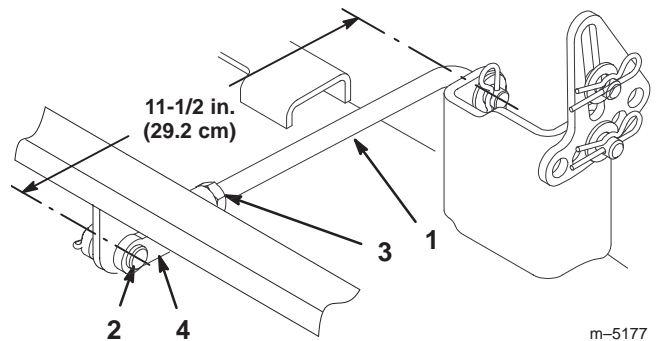

Figure 40
4. Measure the length of the rear trunion rod (Fig. 40). If the rod length is not 11-1/2 in. (29.2 cm), remove the clevis pin and cotter pin from the end of the rod (Fig. 40), loosen the jam nut, and turn the yoke until the 11-1/2 in. (29.3 cm) dimension is obtained. Then secure the yoke with the clevis pin and cotter pin. Repeat this procedure on the opposite side of the mower.
10. When the front-to-rear blade slope is correct, tighten the jam nuts (Fig. 40 and 42).